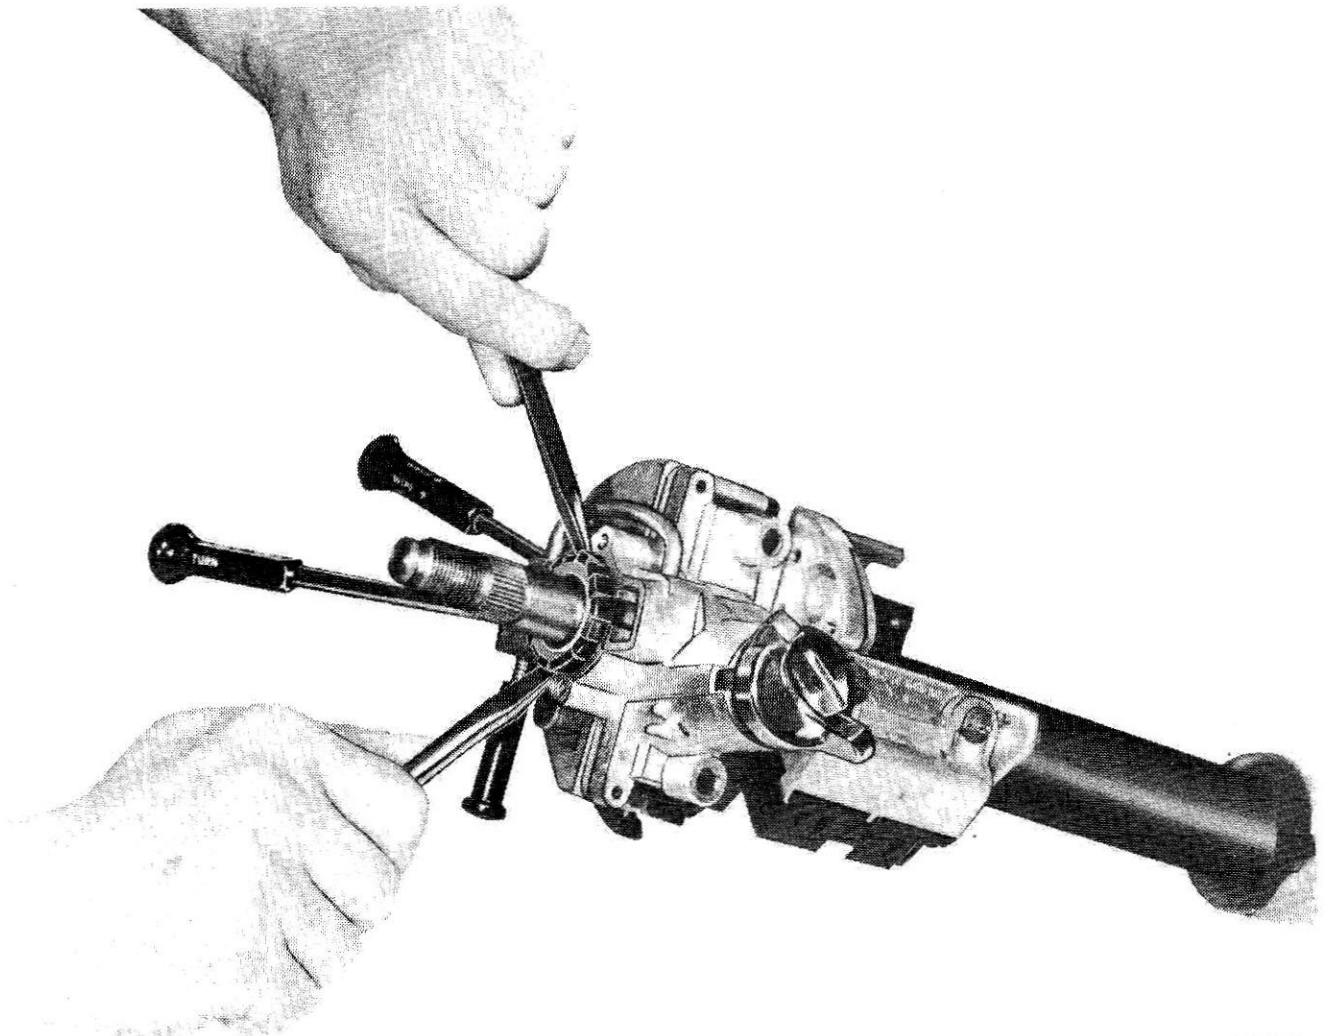

FIG. 8 Removing Upper Shaft Bearing
6. Pull outward on the steering shaft. The shaft will move approximately one quarter of an inch, carrying the upper bearing and sleeve with it. This movement of the bearing will allow the blades of two screwdrivers or similar tools to be inserted under the bearing by using the two ramps in the casting provided for this purpose. With the blades of the screwdrivers under the bearing, pry it gently off the knurl on the steering shaft (Fig. 8).